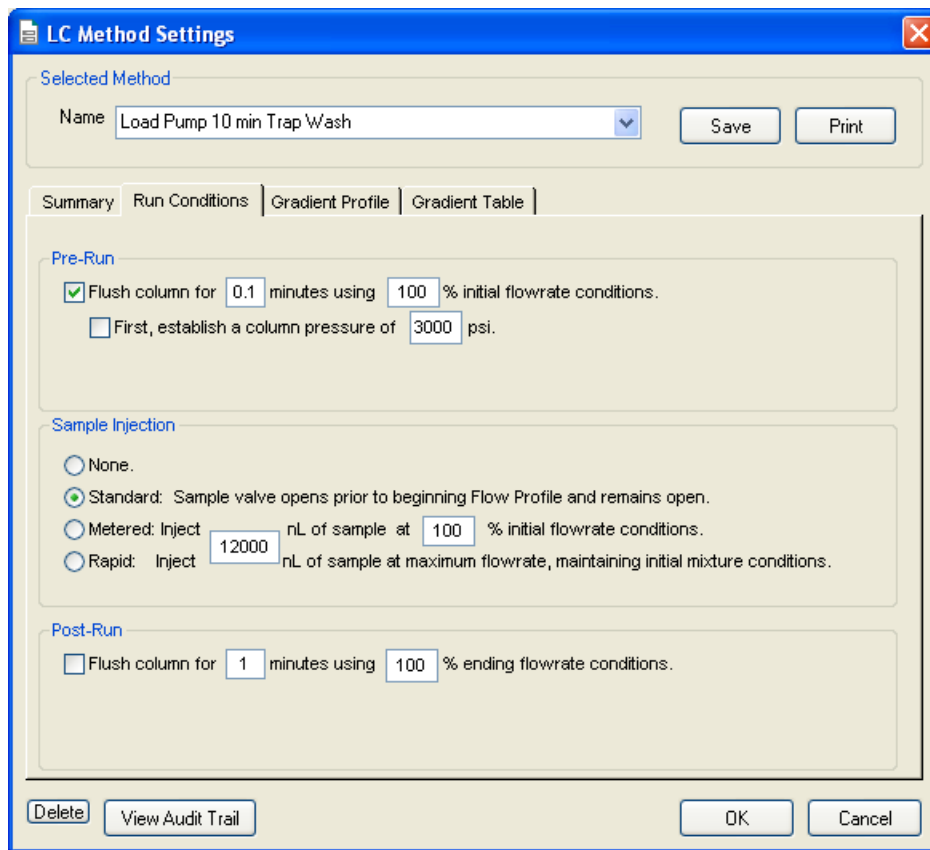

Figure 1-14 LC Method Settings dialog—Run Conditions tab
- On the **Run Conditions** tab, specify conditions as shown in Figure 1-14.